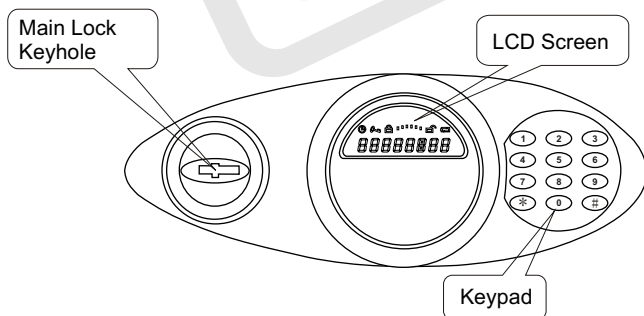
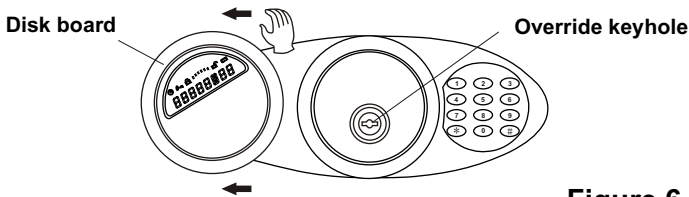

Figure 4 Panel
Figure 6
- ☐ Turn the LCD mounting disc counterclockwise and remove it from the panel (Figure 6, P.8 in User's Manual). Locate the override keyhole behind the disc. Insert the override key (Figure 3, P.5 in User's Manual) into its keyhole and turn it counterclockwise to the end, then insert the main key into the main lock keyhole (Figure 4, P.5 in User's Manual) and turn it clockwise to the end to open the door. (Model G1-410, G1-510, G1-610 and G1-710 need to turn the knob clockwise to open the door.)
Insert the main key into the main lock keyhole (See Figure 3 and Figure 4) in the panel.